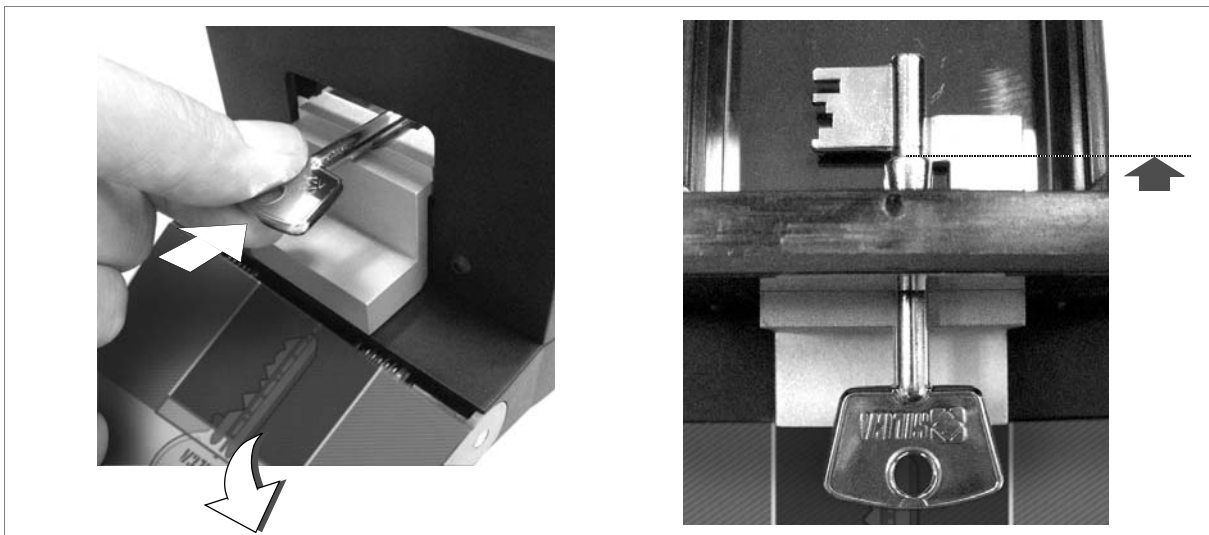

Fig. 34
- 2) With the lever down fit the key with its stop up against the stop on the adapter (fig. 34).